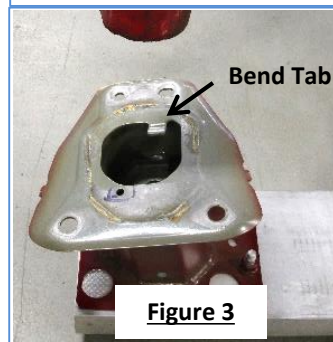

Figure 3
- using a flat head screwdriver, remove (1) push pin rivet from behind wheel well trim, both sides.
- using plastic trim panel tools, starting at outer edges near wheel well, while gently pulling rearward, release clips and remove lower fascia. **See Figure 3.**
- 4. Modify bumper beam** – using a hammer, bend the metal tabs on back of bumper beam so they are flush with bumper beam mounting surface. **See Figure 3.**
4. Modify bumper beam – using a hammer, bend the metal tabs on back of bumper beam so they are flush with bumper beam mounting surface. **See Figure 3.**